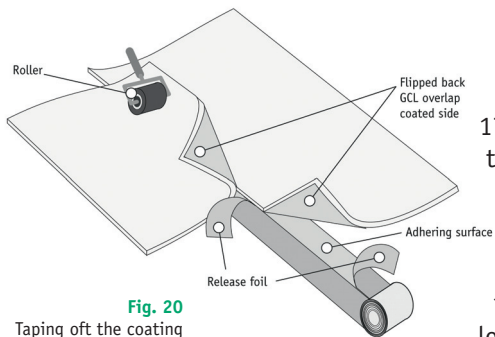

Fig. 20
17.22 Bentofix® NSP X-type GCL overlaps that require a taping need to be turned back (fig. 20).
17.28 Use a roller to then ensure a good bonding between overlap tape and coating (fig. 20).